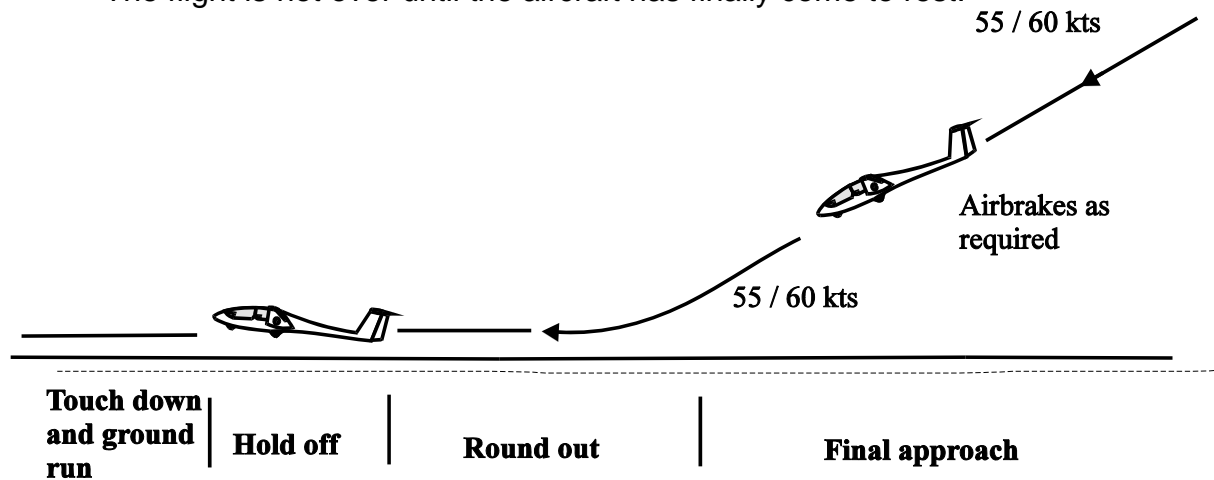

Fig 9. Approach and Landing.
4. **The landing.** Essentially, the landing can be broken down into three parts, the round out, hold off, the touch down and ground run. See Fig 9.